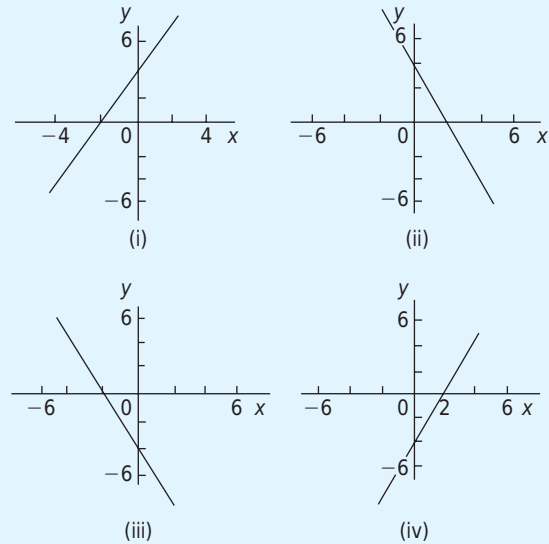

Figure 2.11
14. Which of the straight lines shown in Figure 2.11 has the equation $y + 4 = 2x$?